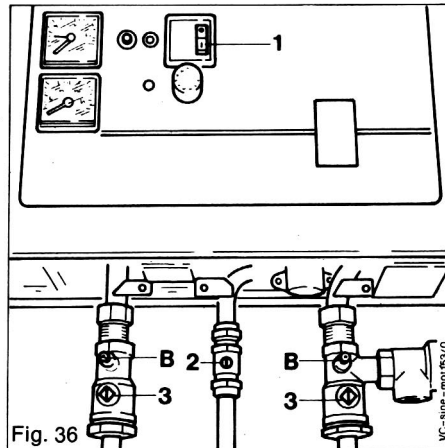

Fig. 36
- Turn off gas service cock (2, fig. 36)
- Turn off boiler C.H. service cocks (3, fig. 36)
Close C.H. service cocks (3, Fig. 36)